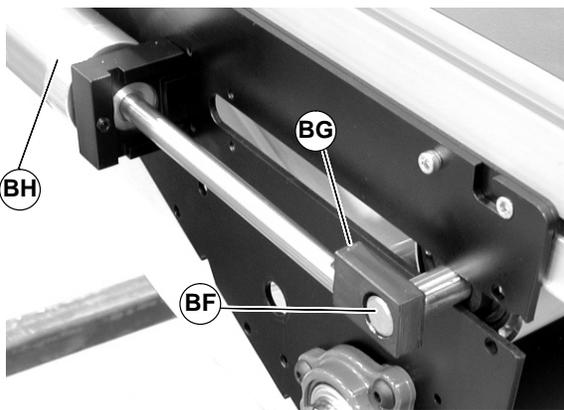

Figure 83
6. Push shaft (BF of Figure 83) through block (BG) on opposite side of center drive, slide block toward air cylinder (BH).